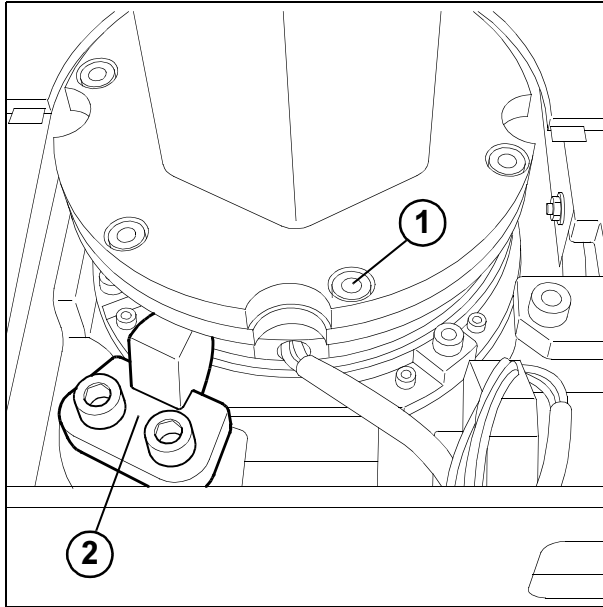

Fig. 15
- Check the condition and mounting (six M6 Allen screws) of the support arm (1/Fig. 15), **10 Nm**.
- Check the condition of the end stop (2/Fig.15) for wear and its mounting.